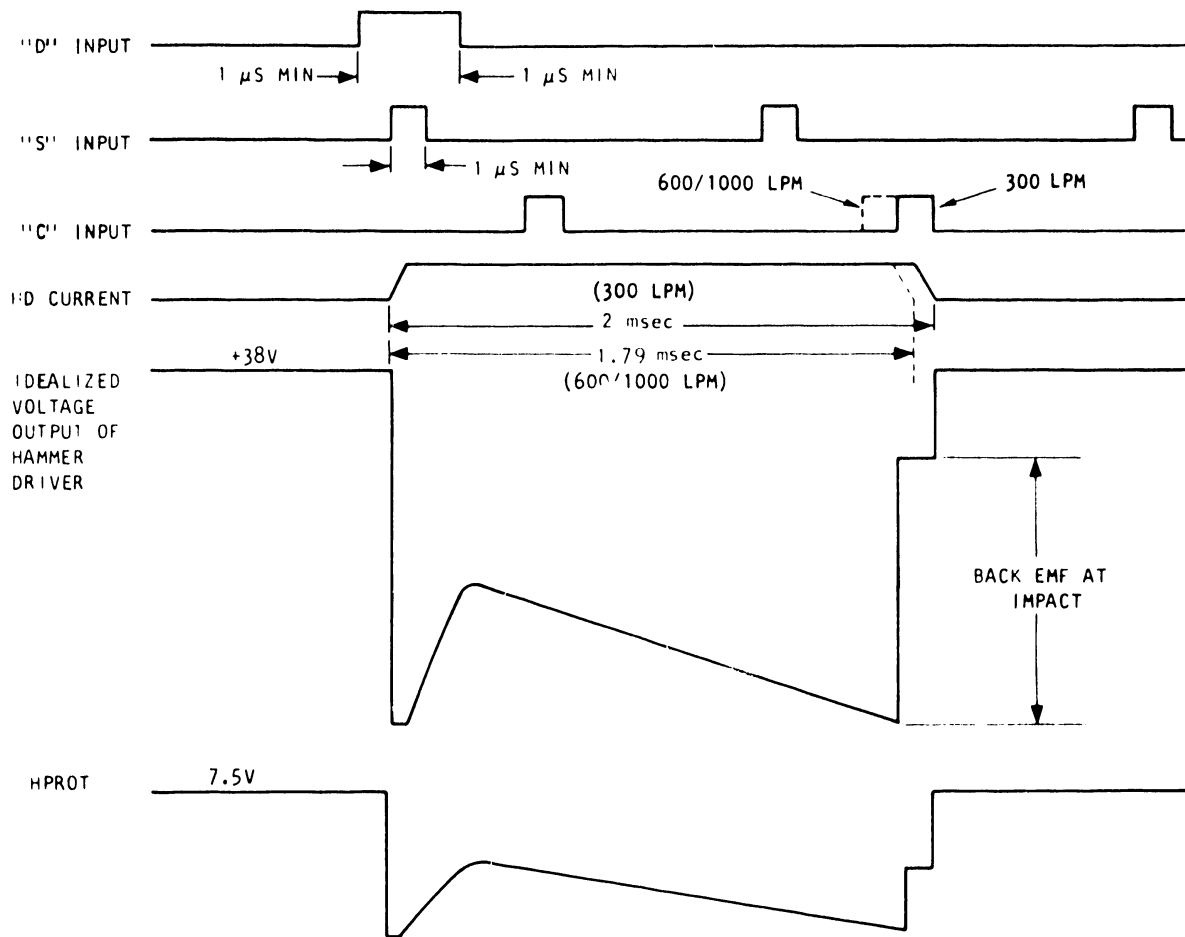
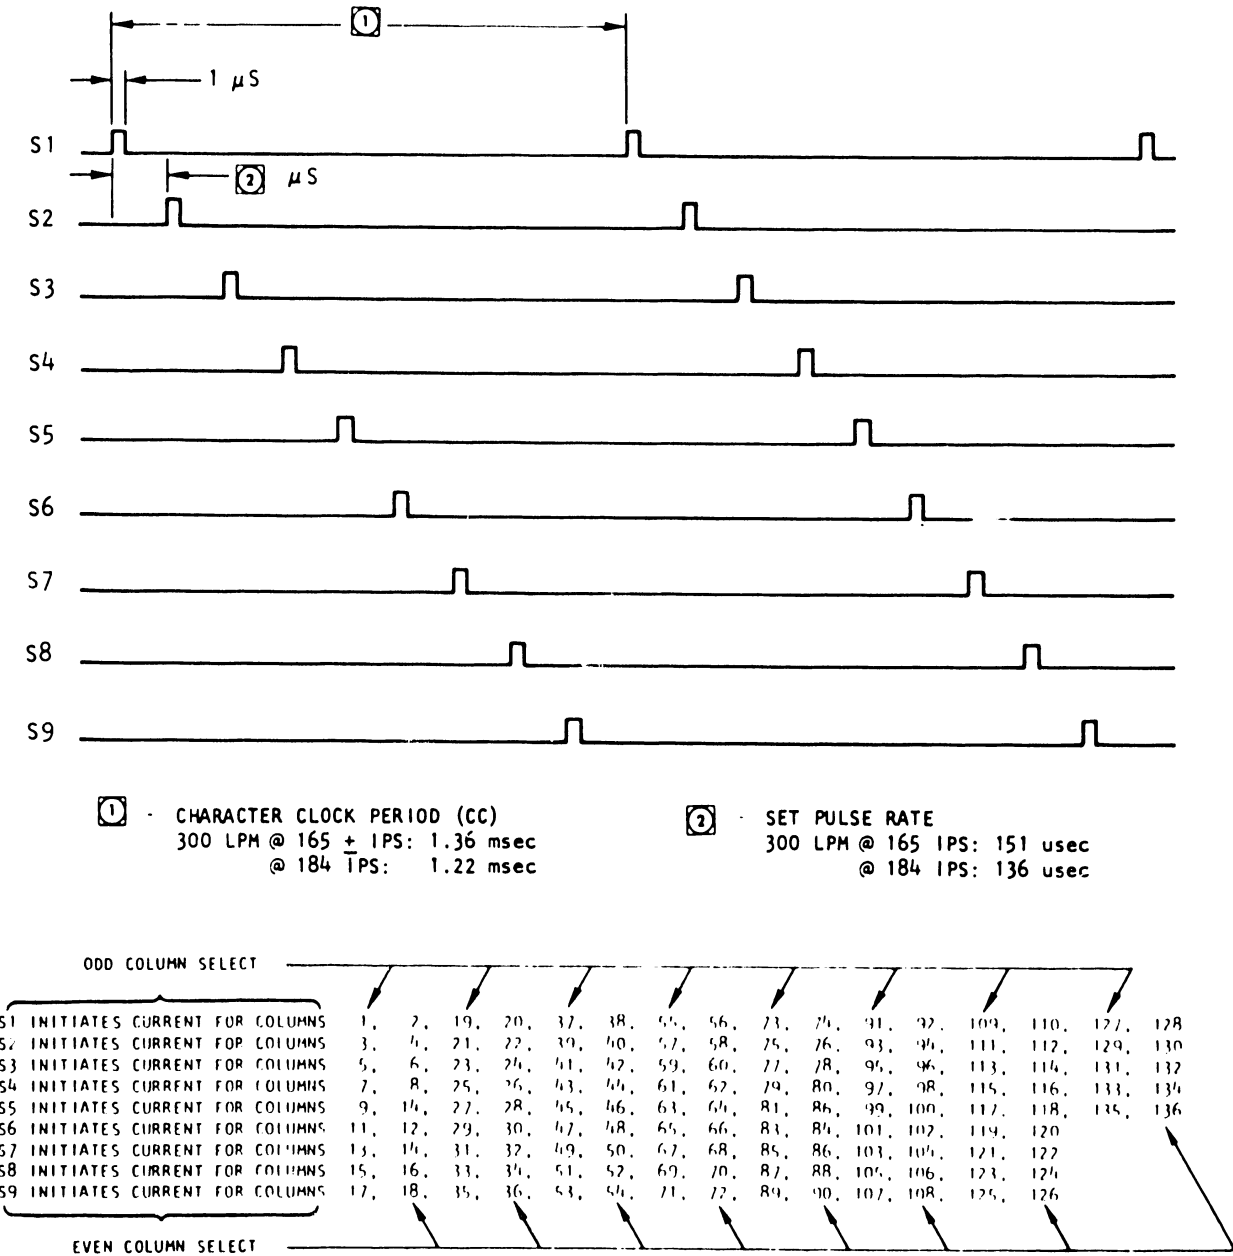

Figure 2-46. Hammer Timing Diagram (Ideal)
Figure 2-47. 300 LPM Set Pulse Timing Diagram
The hammer driver collectors are ORed to turn on transistor Q1 for any hammer that is active to generate the hammer waveform (HWAFO* or HWAFF*) signal (see figure 2-46 for the hammer timing diagram). The voltage level when all drivers are off is approximately 7.5V; 4.0V when any driver is on; and 0.5V if a logic fault causes the hammer to overheat and go into thermal shutdown. The HWAFO* or HWAFF* signal is monitored by the Timing and Status and the Processor CCAs for a fault condition. HD28V (hammer driver voltage) is disabled if a fault occurs.
The output of set pulse latch U39 goes to the 4-to-10-line decode U38 for generation of the set and the clear pulses to the hammer driver matrix logic. U39 outputs to the hammer flight time header J18 for configuring the inputs to the decoders U35, U36, and U37. See the hammer timing diagram, figure 2-46.
Hammer firing occurs with the coincidence of a character compare between the Processor CCA data RAM and band image PROM and the timing of a hammer trigger (HMRTRG*) set pulse S1 through S9 (see figure 2-46). The set pulses S1 through S9 are a continuous set of pulses with a minimum width of one microsecond, a period of 1.36 milliseconds (165 IPS) or 1.22 milliseconds (184 IPS), and a delay of 151 microseconds (165 IPS) or 136 microseconds (184 IPS) between two successive pulses (see figure 2-47).
To fire a hammer, the desired hammer drivers data (D) input (a compare of data RAM character and band image PROM character) is enabled high for a minimum of one microsecond before its "S" pulse and dropped to a minimum of one microsecond after the end of the "S" pulse. The hammer driver is turned off on the leading edge of the second "C" pulse. Set pulses S1 through S9 will initiate current to print in the columns as shown in **figure 2-47**.